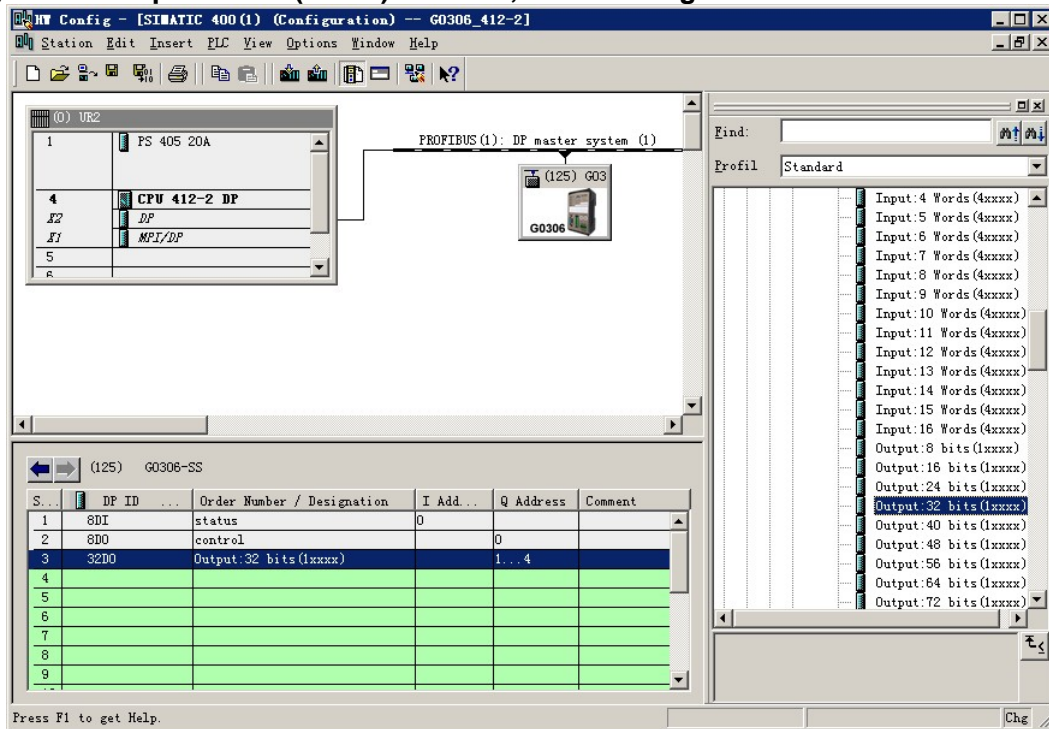

Figure 44 Add “Output: 32 bits(1xxxx)” Module
a) Add “Output:32 bits(1xxxx)” Module, shown in Figure 44: